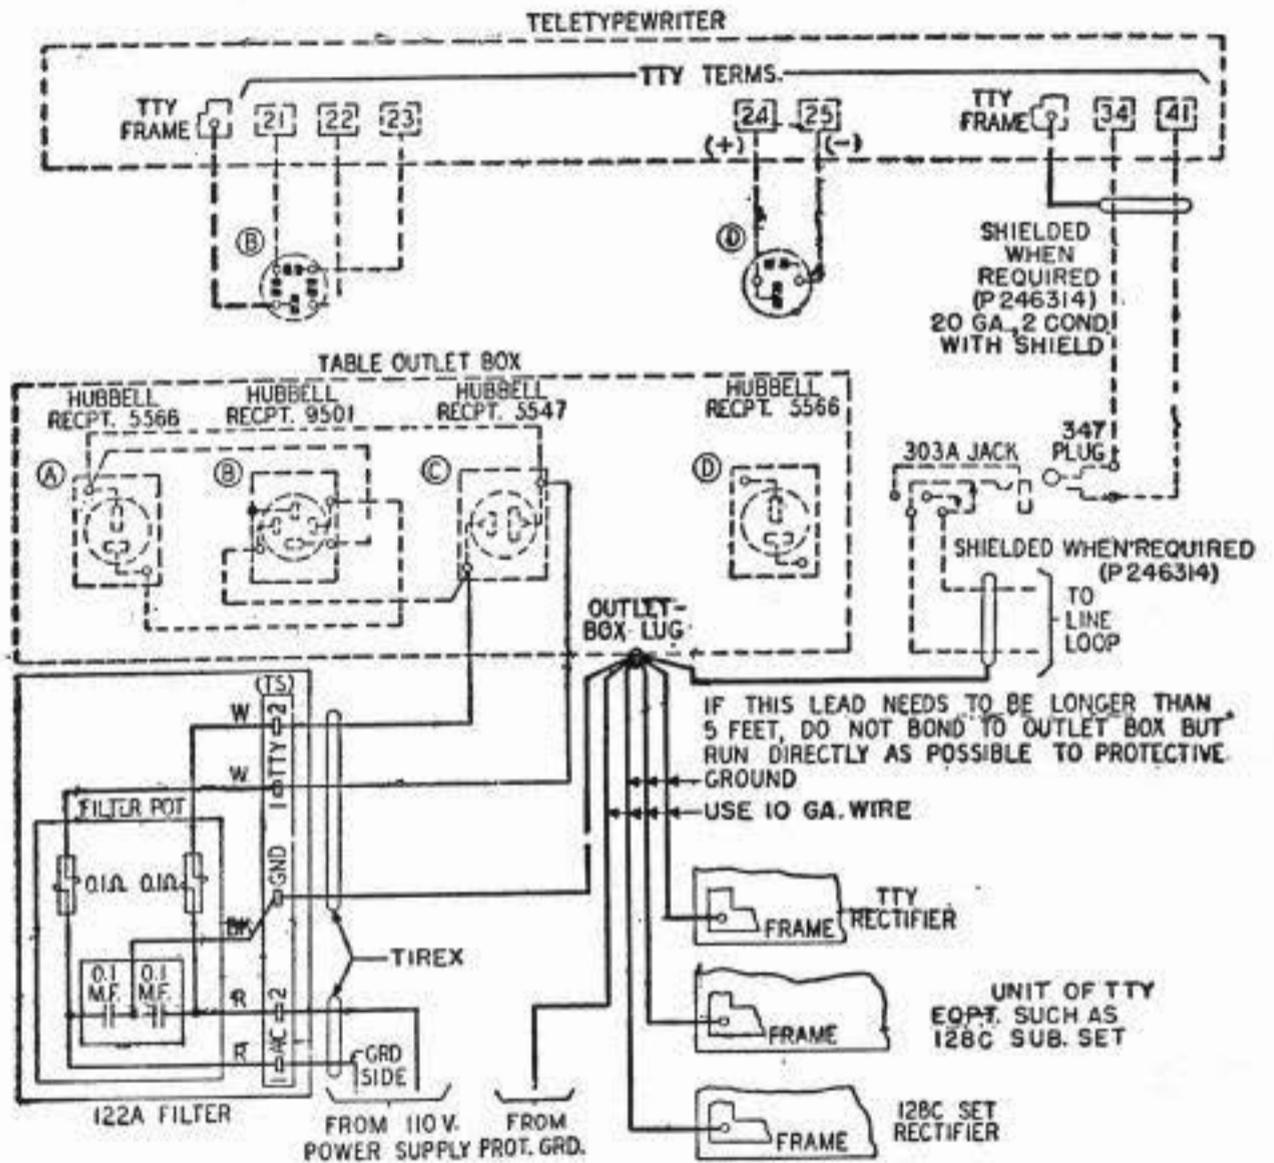

Fig. 1
2.02 Refer to Fig. 1 and connect the filter unit as follows:
(4) Bond the rectifier frame and the frames of other auxiliary equipment on the teletypewriter table by means of individual conductors to the outlet-box lug as shown in Fig. 1.